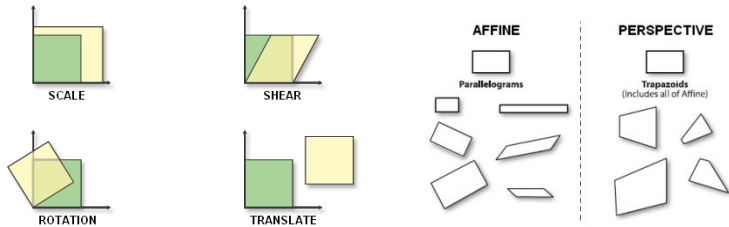

Figure 48: Transformation types.
- **Correlated transformation type** – Specifies parameters that are correlated. The precise meaning of the terms used in these descriptions can also be found depicted in Figure 48. To avoid problems during computation, the transformation type should be estimated according to expected movement of measured specimen. Can be set to one of the following options: